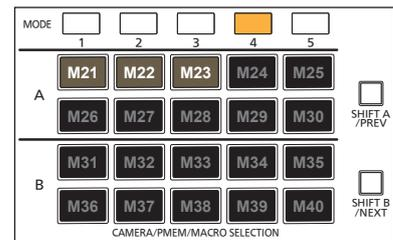

Figure 3
2. When you release the [SHIFT B/NEXT] button, the macro page is confirmed and the 20 [CAMERA/PMEM/MACRO SELECTION] buttons switch to M21 to M40. (Figure 3)